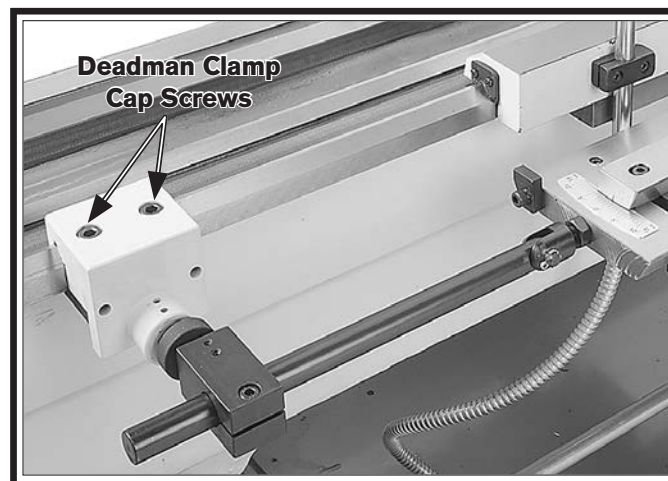

Figure 27. Deadman clamp cap screws.
2. Loosen both deadman clamp cap screws (see **Figure 27**)